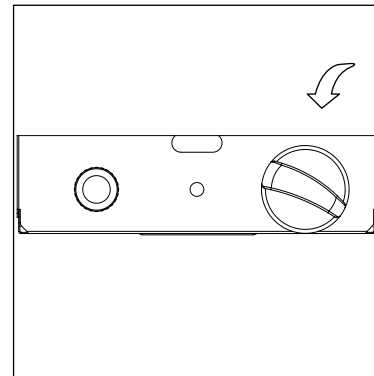

Figure 5
8. Turn the control knob to the "HIGH", and release control knob. If you want a lower temperature, push in the control knob and turn counterclockwise to the "LOW" position. (Figure 5).